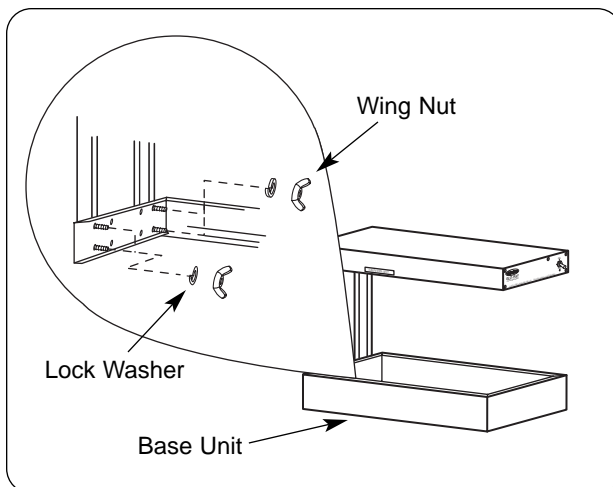

Figure 14. Assembly of Top Housing with Leg Bracket to Base Unit
5. Secure top assembly to base unit using lock washers and wing nuts provided. (See Figure 14.)